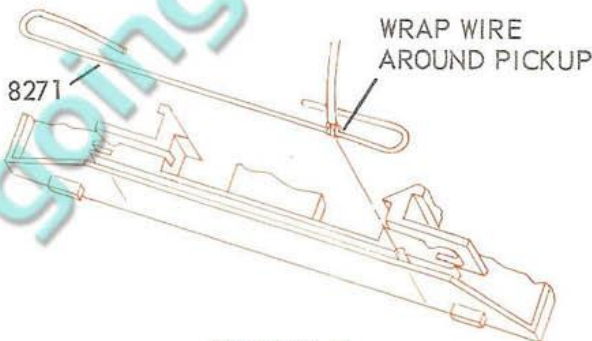

FIGURE 9
e. Wrap new lead wire around pick-up as shown in figure 9.